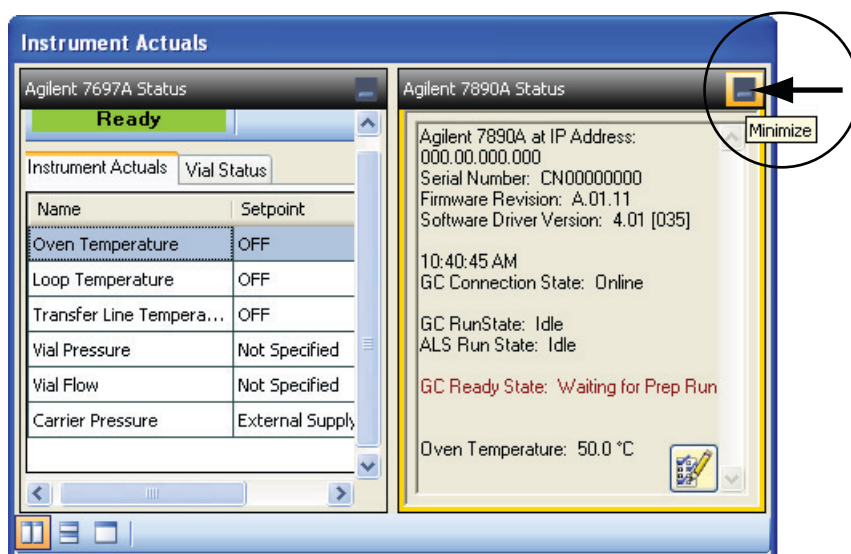

**Figure 26** Minimizing Agilent 7890A Status panel
- To view the full Agilent 7697A **Instrument Actuals** panel, hide the **Agilent 7890A Status** panel by clicking the minimize icon in the top-right corner (Figure 26).